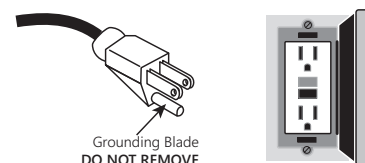

Figure 1. Grounding Blade—Do Not Remove
- ◆ Never remove the grounding blade (Figure 1) from the power cord. Cutting the power cord or plug will void the warranty and make the pump inoperable.